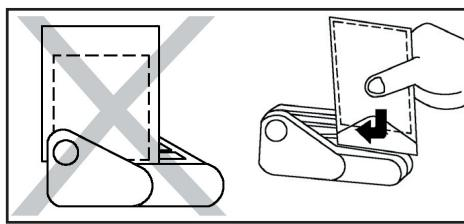

Fig. 2
- Insert the desired opening end of envelope alongside the guide and slide as per picture shown in Fig. 2.